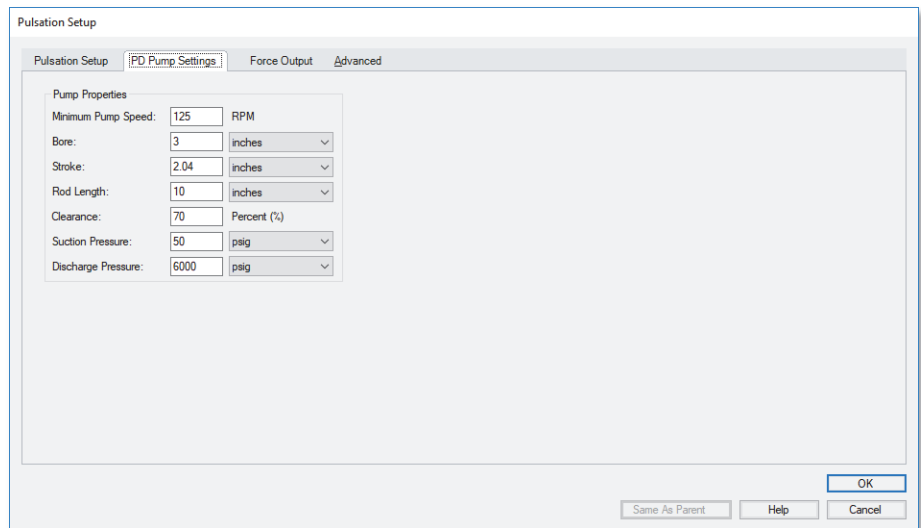

Figure 6.11 PD Pump Settings tab with input
7. Now that all required input has been entered in the Pulsation Setup tab, enter the following information on the PD Pump Settings tab (see Figure 6.11).